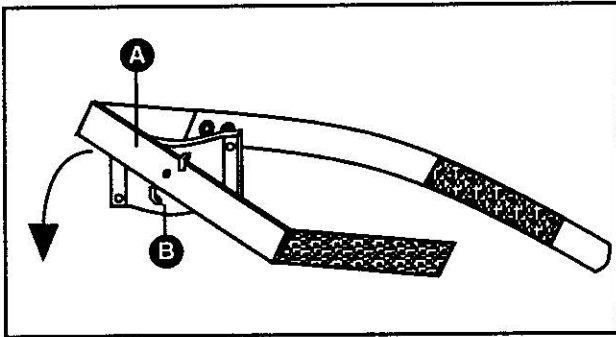

**Figure 1-29**
**GM H.E.I. Adapter:** This adapter is supplied with your Engine Analyzer (see Figure 1-29). The adapter is used in place of the yellow pickup on all GM HEI vehicles equipped with integral coil/distributor systems. Disconnect the yellow pickup from the secondary lead. Plug the HEI adapter into the secondary lead and screw the connector ring over it. Attach the HEI adapter to the vehicle at the coil.